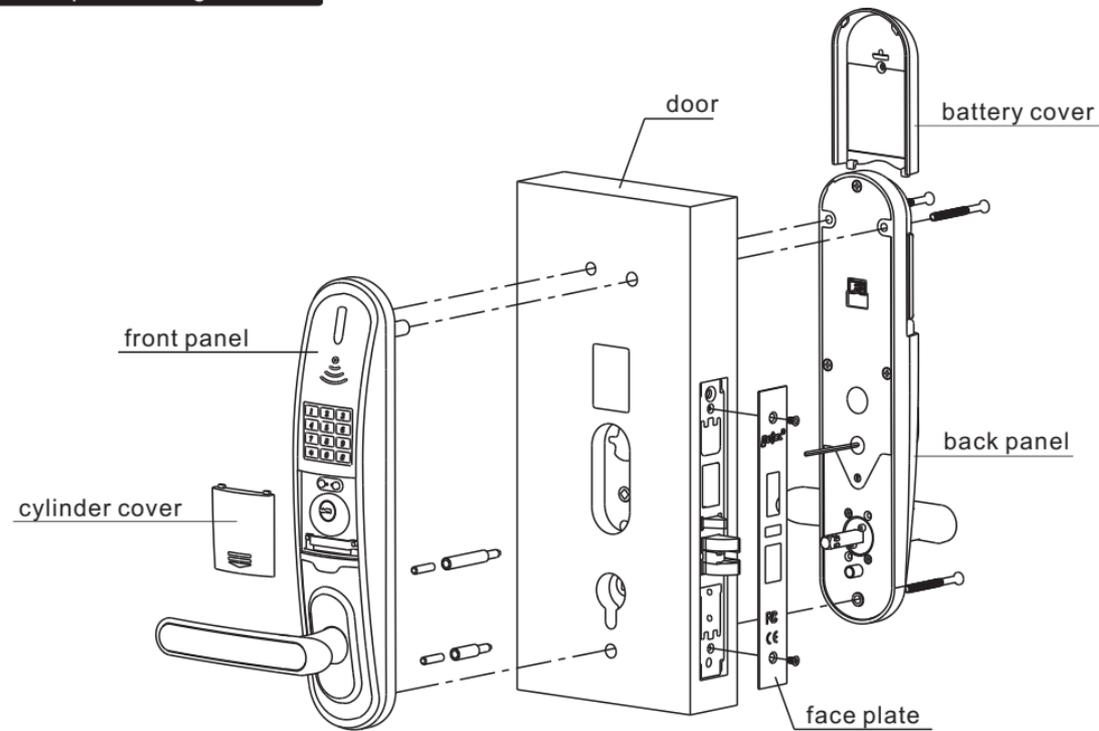

figure 2.4g
- (1).turn handles to test its flexibility.
- (2).turn handles to open test the latch, turn the knob to test the dead bolt's flexibility.
- (3).open the door with mechanical key to test the flexibility of latch and dead bolt.
- (4).test the anti-trust latch whether it can present the latch from unlocking illegally.(figure 2.4g)